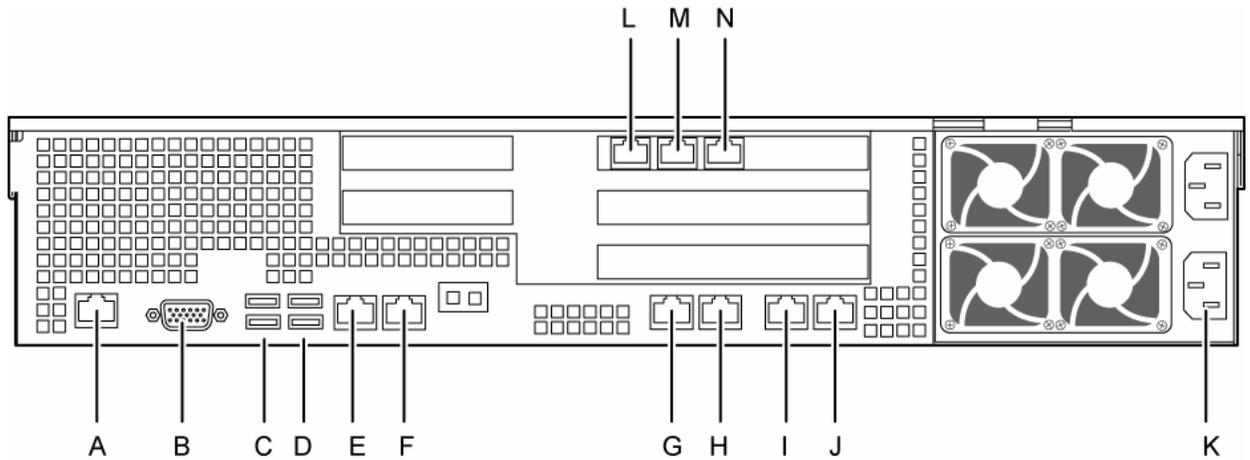

Figure 23: 1006r server rear panel
Figure 23: 1006r server rear panel on page 91 shows the rear panel of the 1006r server with the three full-height PCI card slots (C). The MPB96 voice processing boards occupy one or three full-height slots. In the following diagram, the card slots are numbered from 1 to 3 starting at the top.